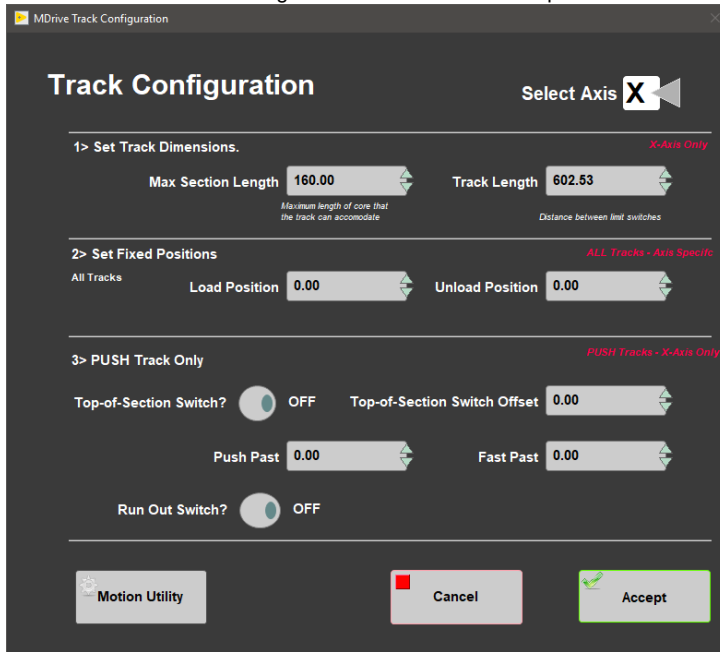

Figure 23. NGR Fixed Positions Window
- Click the **Open Utilities and Test** button to open the Motion Utility window (Fig. 23) and test the settings. Click **Close** to exit this window.